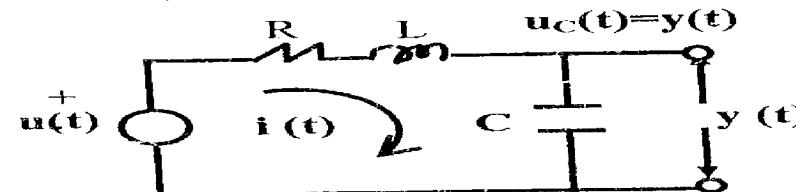

Fig.3a RLC Circuit
3. a-For the R L C circuit in fig.3a